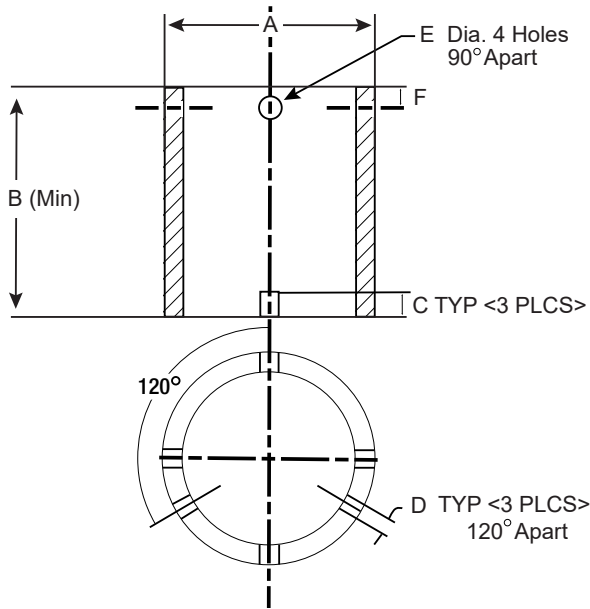
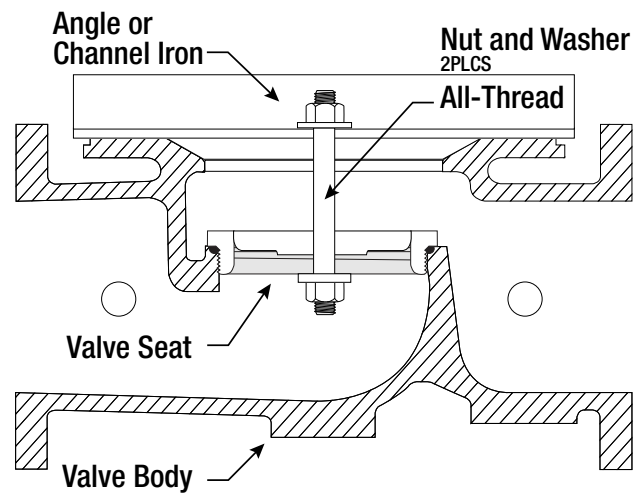

Figure 2
Figure 3
7. Inspect valve seat. If seat is not damaged, removal is not necessary. Valve seats 6" and smaller are threaded into the body of the valve and require a seat removal tool (Figure 2) (Table 1 details the tool dimensions for seat removal). Valve seats 8" and larger are held in the valve body with stainless steel cap screws. Remove seat retaining screws and lift seat straight up (Figure 3).